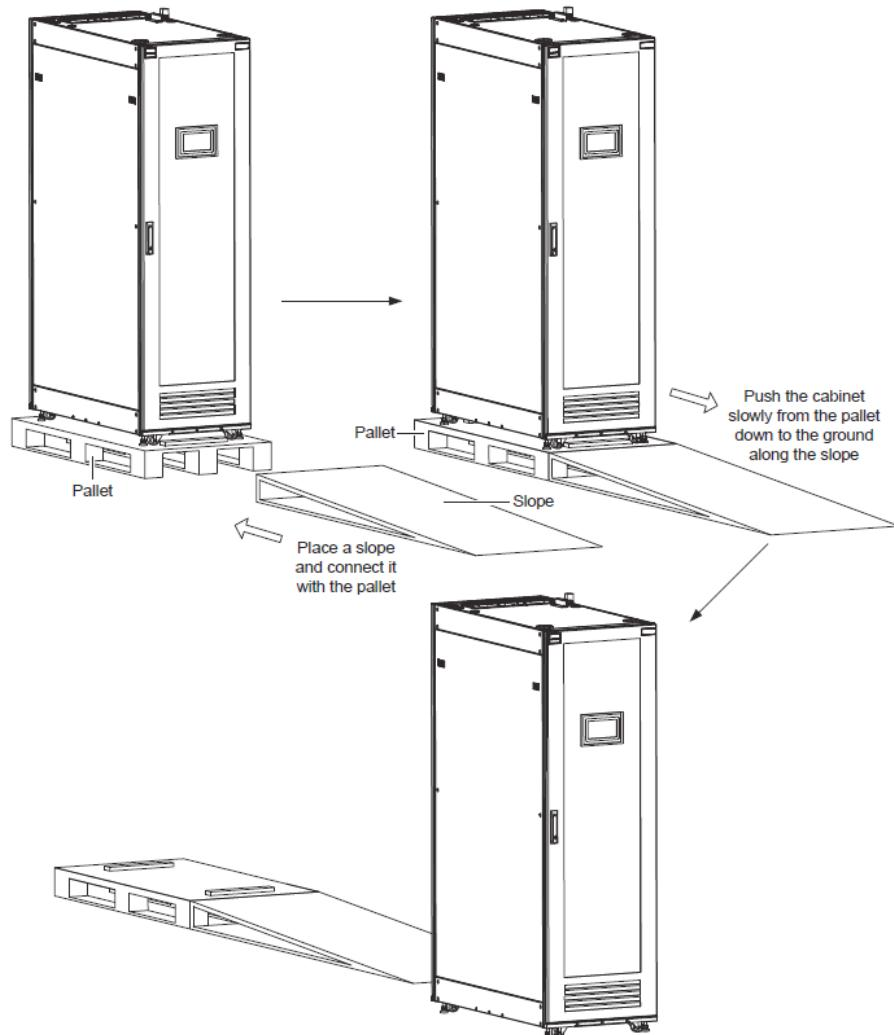

Figure 2-11 Removing the Pallet
- Place a slope at the front or rear door and connect it with the pallet as shown in Figure 2-11.